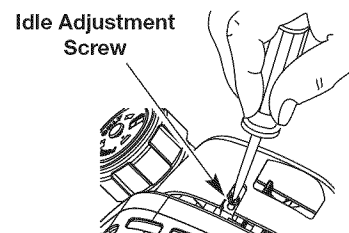

Fig. 39
The idle speed of the engine is adjustable. An idle adjustment screw is between the air filter cover and the engine starter housing (Fig. 39).
- Release the throttle trigger and let the engine idle. If the engine stops, insert a small phillips or flat blade screwdriver into the hole in the air filter/muffler cover (Fig. 39). Turn the idle speed screw in, **clockwise**, 1/8 of a turn at a time (as needed) until the engine idles smoothly.